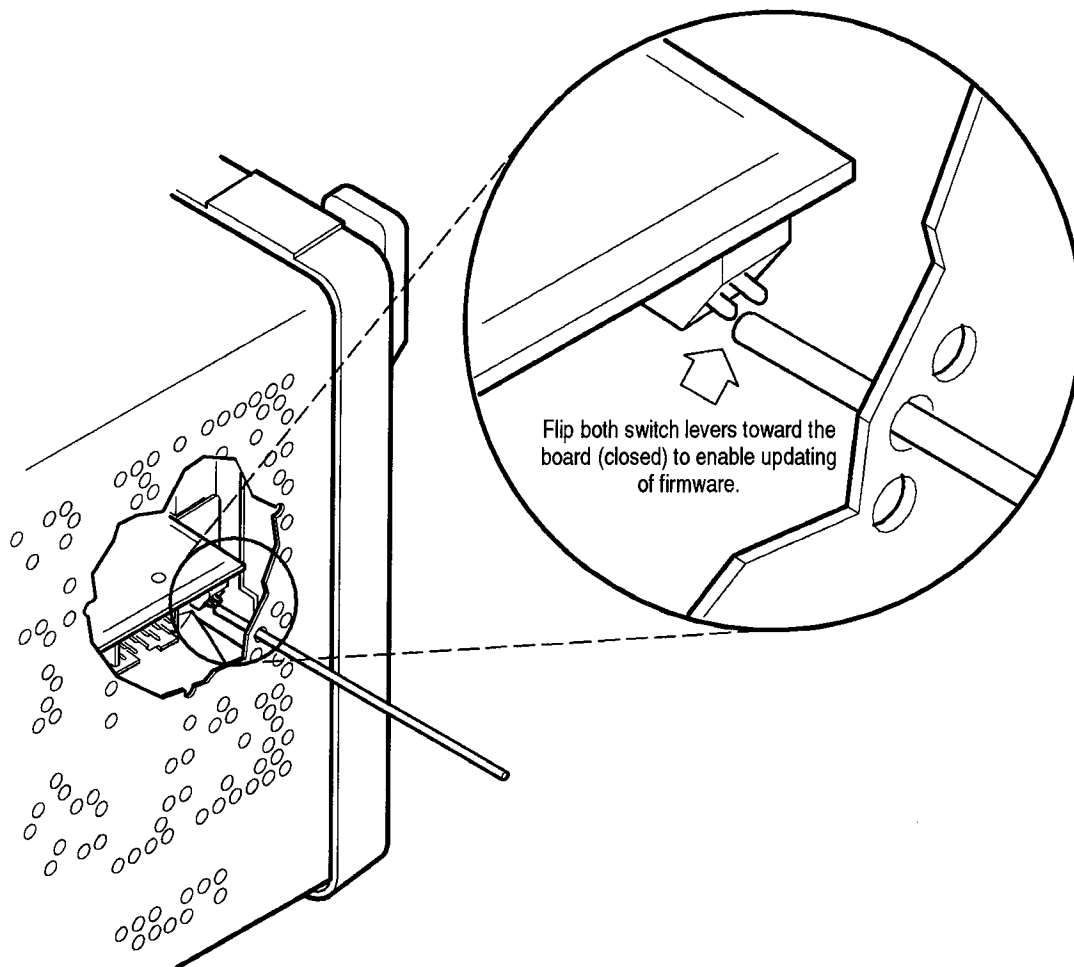

Figure 5: Accessing the Protection Switch
2. Set Protection switch to the *unprotected* position. See Figure 5 and the following *NOTE*.
NOTE. *You must set both switches of the Protection switch to the unprotected position before updating the firmware. Figure 5 shows how to set the switch. After loading the firmware, be sure you set both switches back to the protected position and cycle power.*
5. When the program completes execution it should display (A) ccept or (C) hange? Type A.
6. When the program completes execution it should display (A) bort or (C) ontinue?
7. Set the Protection switch to the *Protected* position. See Figure 5.
13. Set the Protection switch to the *Protected* position. See Figure 5.